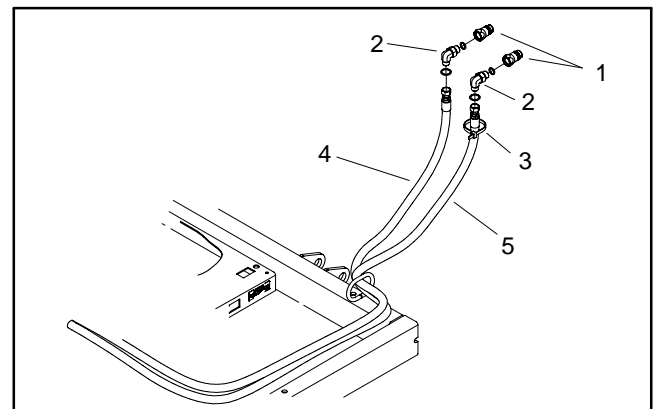

Figure 15
5. Thoroughly clean ProCore Processor hydraulic hose quick couplers at the junction to the tow vehicle. Disconnect hydraulic hose quick coupler for the direction (raise or lower) to be tested (Fig. 15). Connect a T-connector and 5000 PSI (350 bar) pressure gauge between the disconnected Processor hose and tow vehicle outlet coupler.